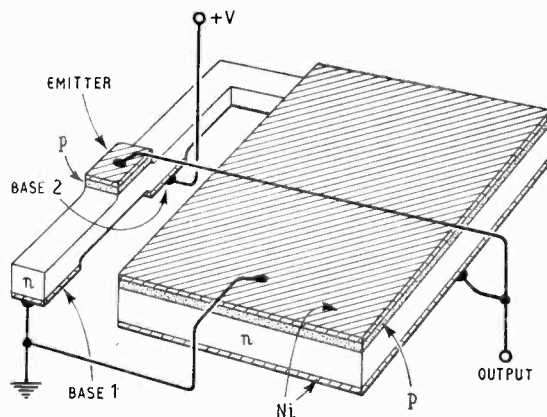
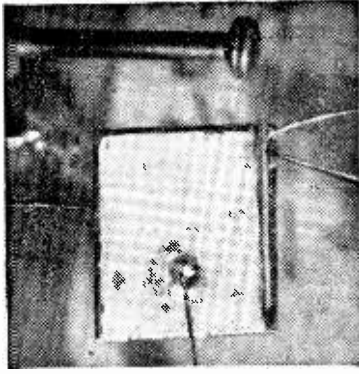

Fig. 3. Perspective drawing of solid circuit of Fig. 1 (e)
Fig. 4. Photograph of solid circuit relaxation oscillator and pin (to show size).
There are several methods of fabricating this integrated circuit, just as there are a variety of ways of making transistors. The method employed at R.R.E. used diffusion as the main technique, and a perspective drawing of the circuit-structure is shown in Fig. 3.
of about  $12\mu$  depth. The slice was then nickel-plated on both sides by an electroless method (ref. 3) and cut into 0.5 cm square dice. A dice was slotted parallel to one side with a wire-saw to produce a bar 0.010 in wide. At the free end of the bar, the three uj.t. electrode positions were masked-off with dots of high lead-content solder, the base connections on the un-diffused side being 0.010 in apart. The capacitor region was also masked-off on both sides with black wax, and the dice dipped into a nitric acid/hydrofluoric acid etchant for about two minutes. This process, by etching away unwanted nickel and crystal from the bar, formed the uj.t. and resistor regions simultaneously, and also removed work damage from the edges of the capacitor, thus leaving the crystal dice in the form shown in Fig. 3. During this etching stage, the uj.t. was tested on a jig to ensure that its characteristics were suited to the values of resistance and capacitance with which it was being integrated. The wax was removed, and 0.002 in diameter gold or copper leads were soft-soldered to the capacitor and to the mesa-structure electrodes of the uj.t. The device was then thoroughly degreased, washed and mounted for testing. A photograph of such an integrated circuit (compared in size with a pin) is shown in Fig. 4.